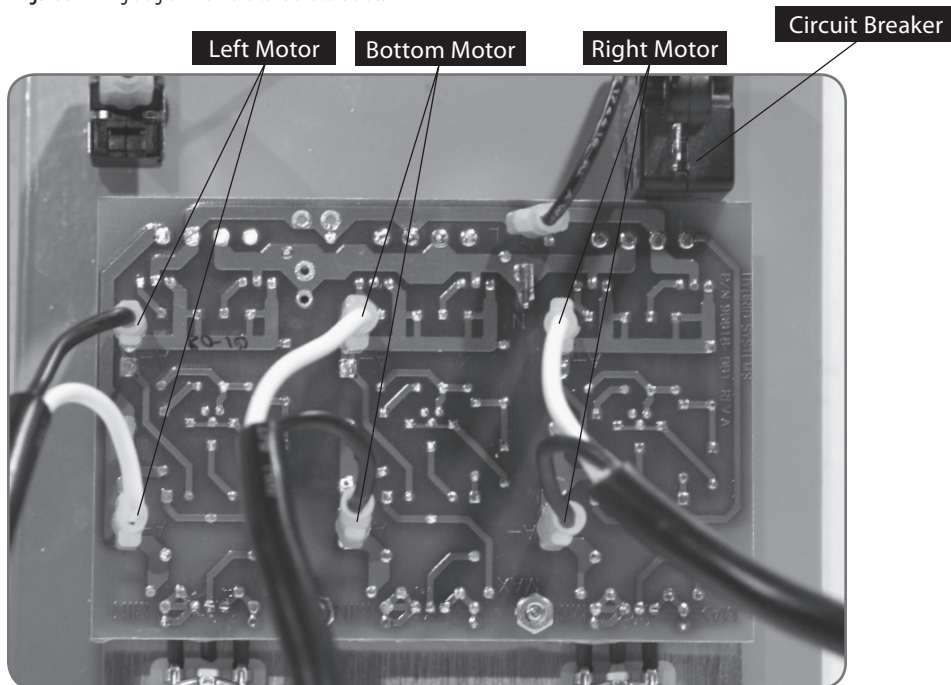
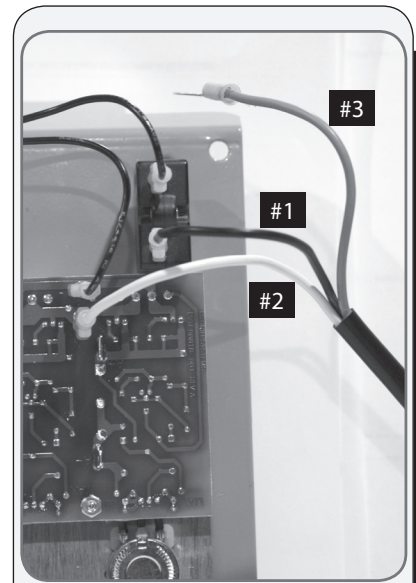

Figure 10 Wiring diagram for all three motors.
Figure 11
3. Remove four screws holding controller into main casting. Note the position of the motor wires on the controller, then disconnect the wires. See Figure 10 on page 12.
2. Remove four screws holding controller faceplate into main casting. Note the position of the main power and motor wires on the controller, then disconnect the wires. See Figure 10 on page 12 for the three motor wires. See Figure 11 on page 12 for the main power cord wires.
Be sure wires are correctly reinstalled. Motor wire connectors are different sizes. Be sure they are installed on the correct size terminal. See Figure 10 for the motor wires and Figure 11 for the power cord wire.